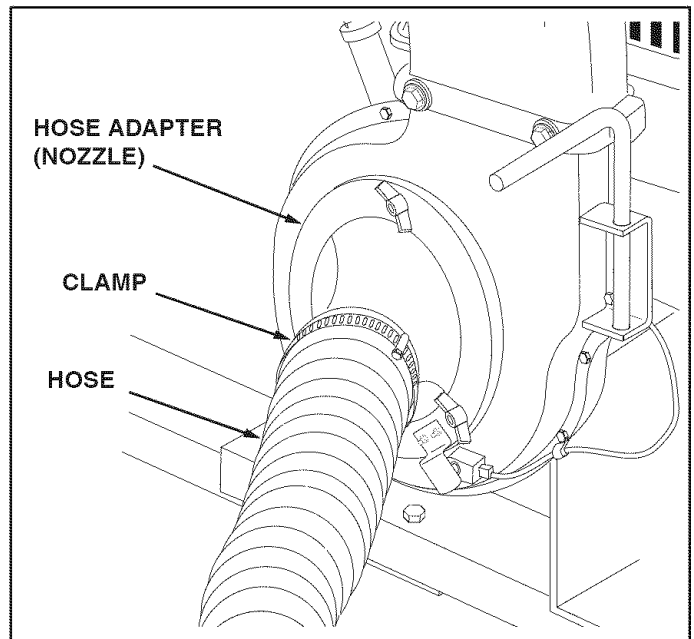

FIGURE 11
13. Place a hose clamp onto the end of the hose. Push the hose onto the hose adapter (nozzle). Tighten the hose clamp onto the hose and hose adapter. Do not collapse the hose adapter when tightening the clamp. See figure 11.